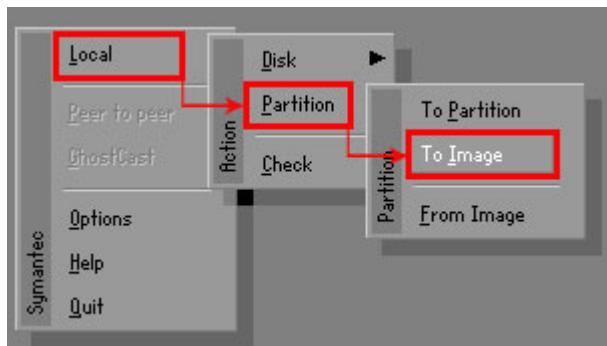

Figure B-13: Symantec Ghost Path
**Step 4:** Use mouse to navigate to the option shown below (**Figure B-13**).